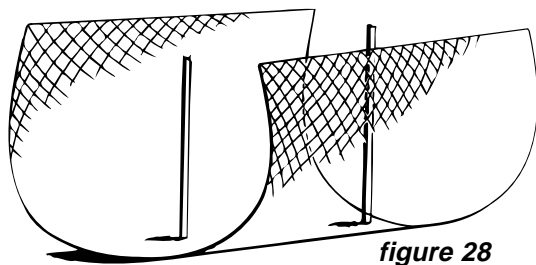

figure 28
2. A very strong weir system employed by the Dept. of Water Resources and the construction industry in general is the 'rock sausage'. For this method use 3mm gauge double galvanised chain mesh, ask your hardware or fencing supplier, form the mesh into a 'U' shape across the stream and secure with star pickets. (see figure 28)